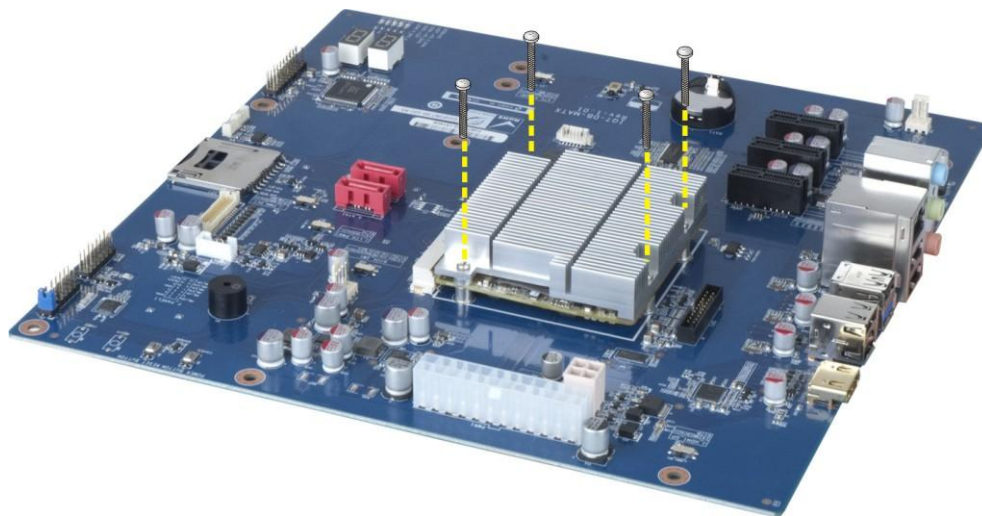

Figure 3-3: Secure the Heatsink
- Step 4:** Secure the heatsink to the iQ7-ASL and the baseboard with the supplied retention screws (Figure 3-3).